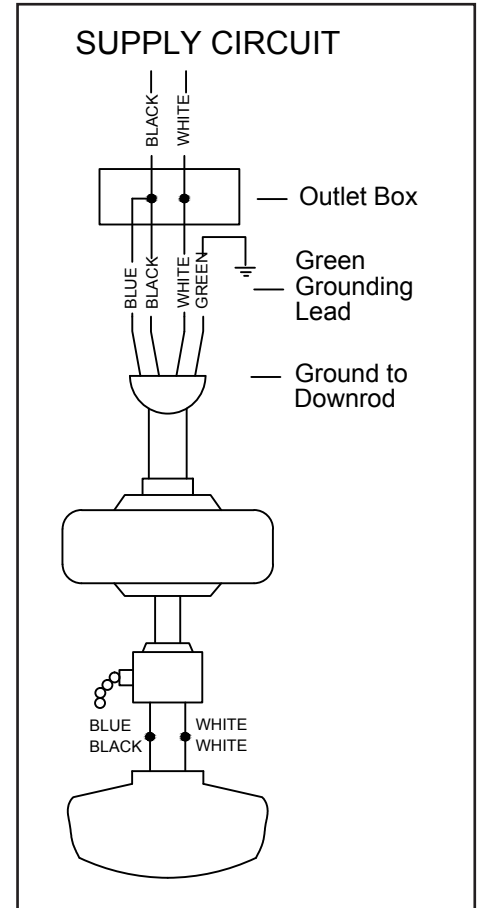

Figure 13
Follow the steps below to connect the fan to your household wiring. Use the wire connecting nuts supplied with your fan. Secure the connectors with electrical tape. Make sure there are no loose strands or connections. (Figure 13)
3. Connect the fan supply (Black) wire and light kit (Blue) wire to the black household supply wire as shown in figure 13.